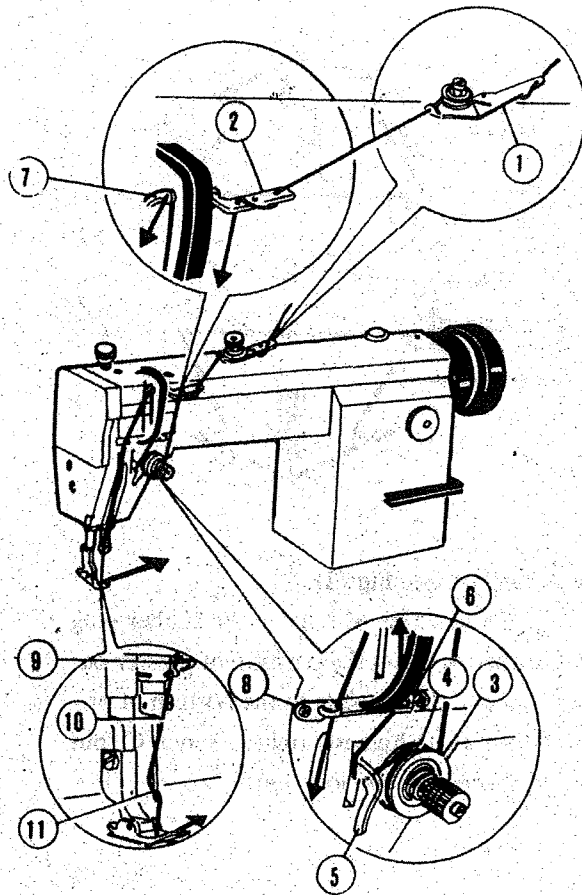

Fig.18
To thread the needle, raise needle bar to its highest position, pull thread from the spool and pass it in the numerical order depicted in Fig. 18. (1) Pull thread from spool, pass it through the guide plate (1) at the top of the machine, then thread it between the thread tension discs, and thru the left hole of guide plate(1). Continue through three-eyed thread guide (2). (3) Pass thread between thread tension discs (3). Pass upward thru thread take-up spring (4) and thread guide (5) and (6) then pass it through the thread take-up lever (7) from right to left. (5) Pass it down thru thread guide (8), (9) of needle bar bushing (lower) and needle bar thread guide (10). Then pass it from the left through the needle eye (11), once threaded pull out approximately 3 inches of thread. To draw up the bobbin thread, hold the end of the thread, turn the balance wheel to lower the needle bar and then continue until it reaches its highest position. Pull the needle thread and the bobbin thread will follow. Pull the ends of both threads towards you and under the presser foot.